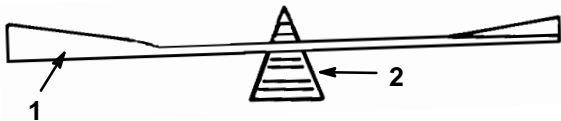

Figure 33
2. Check the balance of the blade by putting it on a blade balancer (Fig. 33). If the blade stays in a horizontal position, the blade is balanced and can be used. If the blade is not balanced, file some metal off the back side of the blade. Repeat this procedure until the blade is balanced.